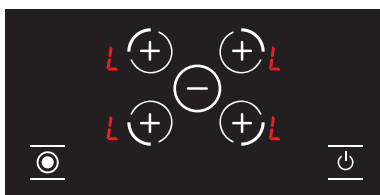

Figure 25
- The symbol **L** is displayed on all hotplates when the hob is switched on and the child safety lock is activated. (See Fig. 25.) The marks **L** and **H** are displayed alternately in case a hot plate is hot. You can only switch the hob on or off using the button **⏻**.